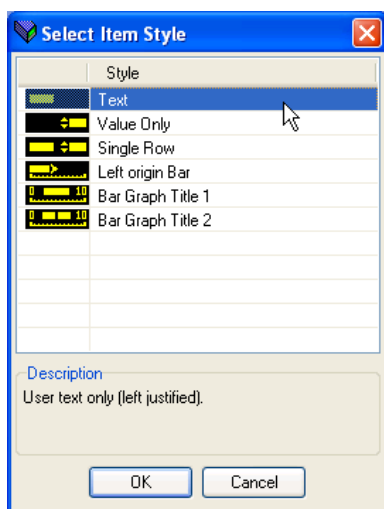

Figure 132 Style Selection Window
2. Double-click one of the cells in the 'Promote Parameter List' to display the 'Select Item Style' window (Figure 132).